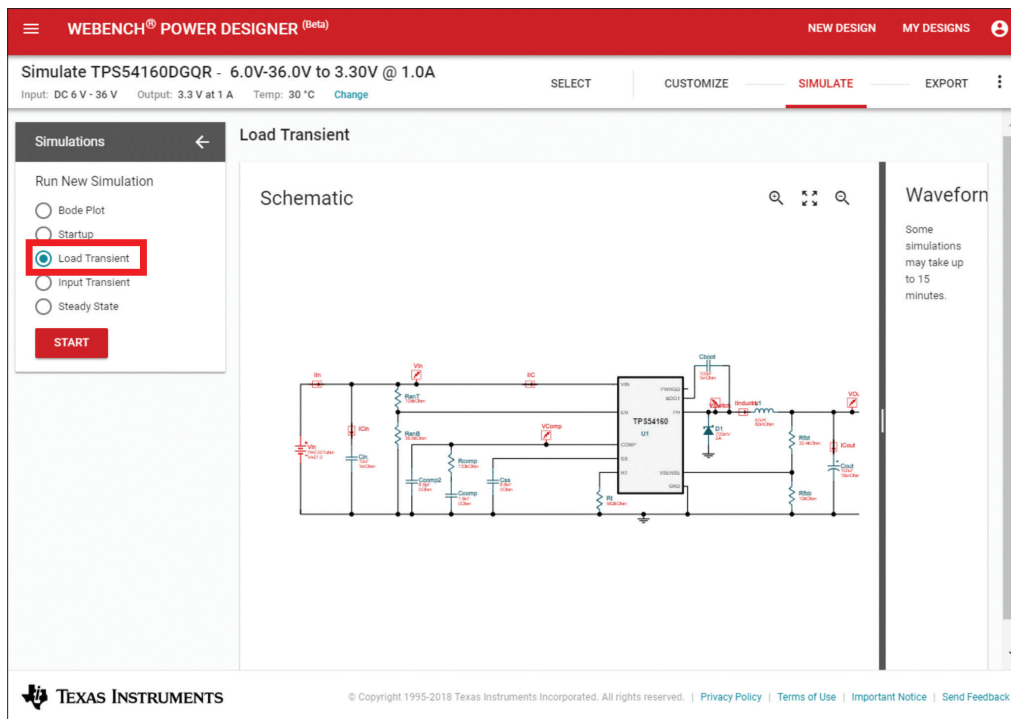

Figure 3.
3. In the **Simulations** box on the left side of the screen, select **Load Transient** as shown in **Figure 3**.